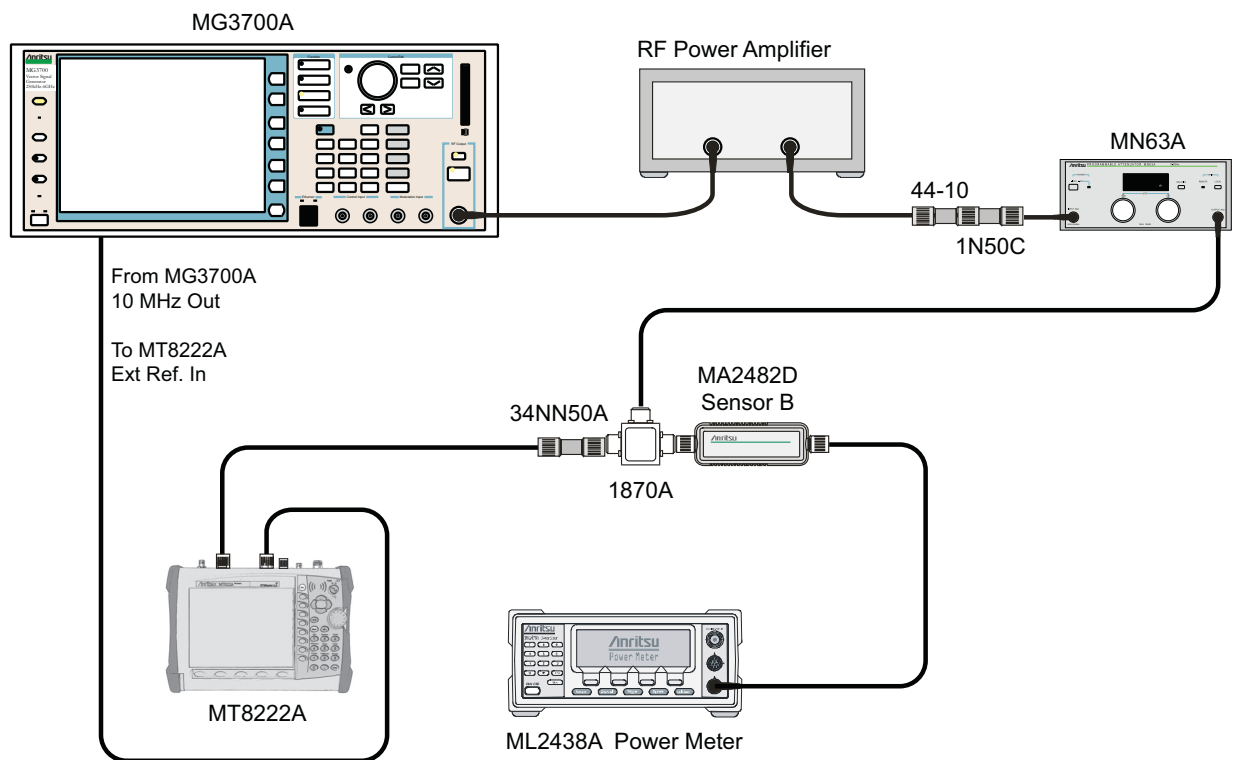

Figure 5-19. DVB-T/H SFN Analyzer Option 78, 1 dB Compression Level Verification – Sensor B Only
12. Remove Sensor A from the splitter and connect the MT8222A RF In to the open end of the splitter using an adapter as shown in Figure 5-19, “DVB-T/H SFN Analyzer Option 78, 1 dB Compression Level Verification – Sensor B Only”
41. Remove Sensor A from the splitter and connect the MT8222A RF In to the open end of the splitter using an adapter as shown above in Figure 5-19, “DVB-T/H SFN Analyzer Option 78, 1 dB Compression Level Verification – Sensor B Only”
51. Remove Sensor A from the splitter and connect the MT8222A RF In to the open end of the splitter using an adapter as shown in above in Figure 5-19, “DVB-T/H SFN Analyzer Option 78, 1 dB Compression Level Verification – Sensor B Only”.